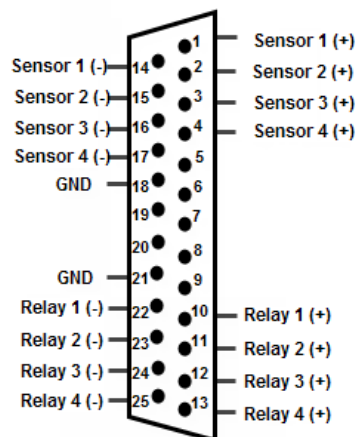

Figure 2.4-18 External connector pinout of the MO USBIO 4x4 card
4. To connect DI/DO, unsolder the connector included in the distribution kit. Unsoldering is made in accordance with the external connector pinout of the MO USBIO 4x4 card (Figure 2.4-18).